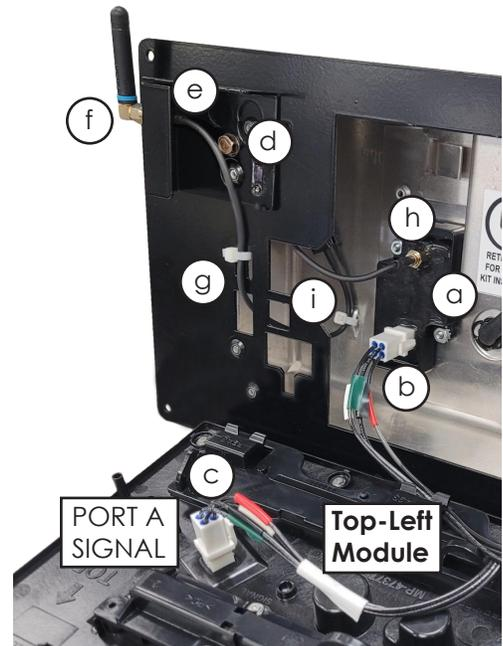

Figure 2: Radio Receiver & Antenna Bracket Installation
3. Install the radio receiver as described below and shown in **Figure 2**: